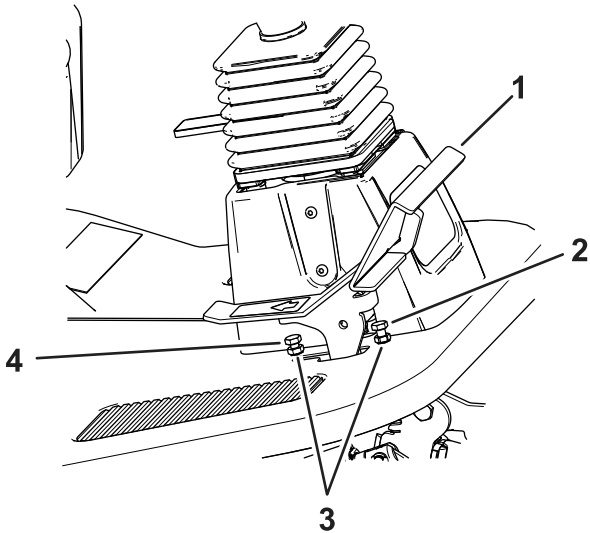

Figure 79
1. Move the traction pedal fully forward (Figure 79).
- A. Using a wrench, hold the forward traction-pedal stop and loosen the jam nut on the back side of the bracket (Figure 79).
- B. Move the traction pedal to the desired position (Figure 79).
- C. Adjust the jam nut on the back of the bracket until traction-pedal stop contacts the traction pedal (Figure 79).